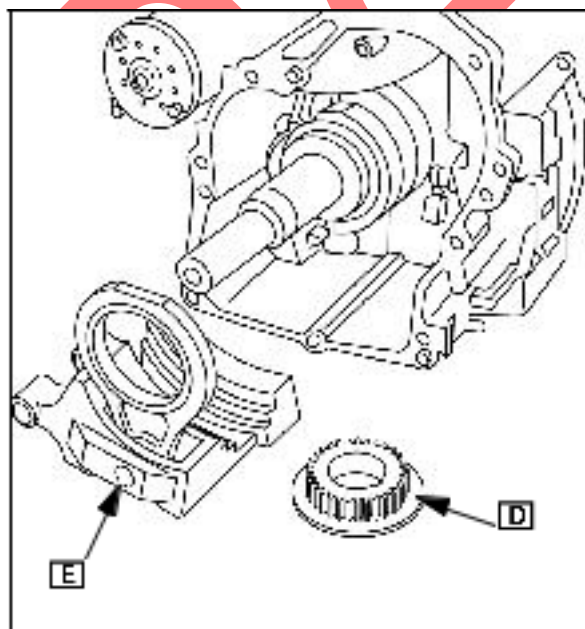

Fig. 12
Remove crankshaft timing gear (D) and counterweight assembly ([E] Fig. 12).